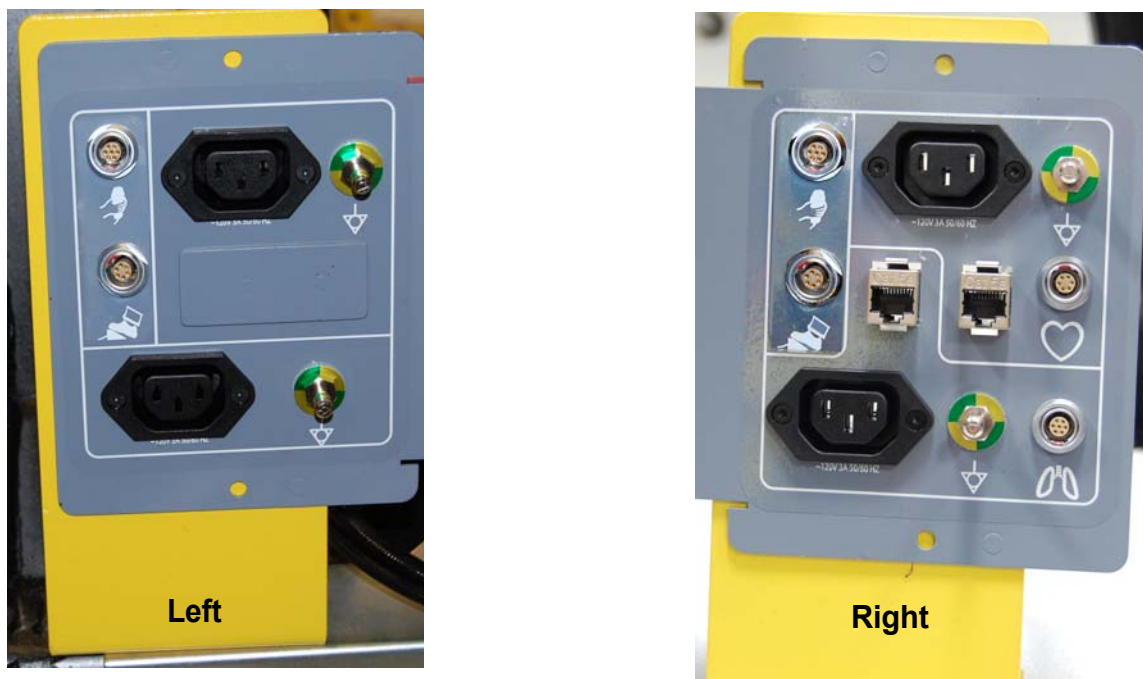

Figure 2-25 Shipping Brackets (Shown Left and Right side brackets.)
- 1.) Separate the shipping bracket from the gantry option panel. Remove the shipping bracket (bright-colored bracket) (see Figure 2-25).